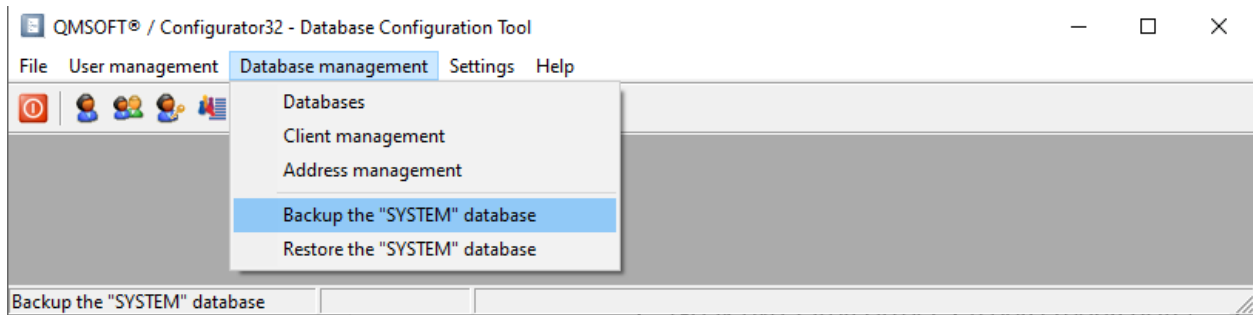

Fig. 3.1.4: Database management → Backup the “SYSTEM” database.
- 2) Go to the *Database Management* menu and start the *Backup SYSTEM database* function [Fig. 3.1.4].